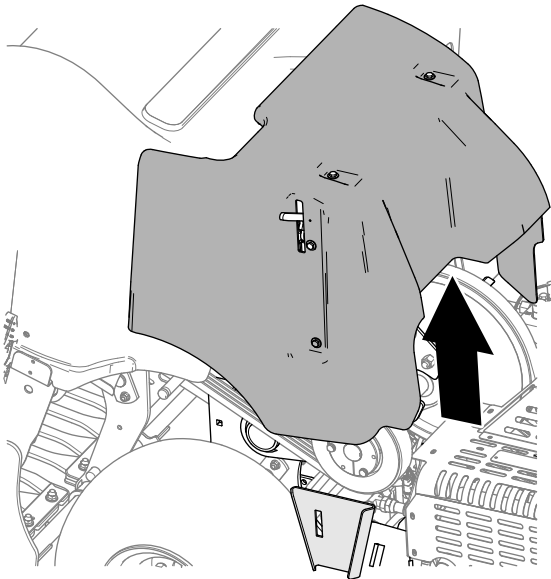

Figure 132
- Lift the belt cover from the machine (Figure 132).